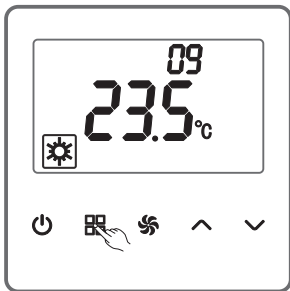

Figure 15
As shown in the Figure 15, on the parameter setting page, press  (MODE) to switch the option number to 09.  (UP) or  (DOWN) is provided to allow a rise or drop on the temperature. If the temperature unit is Celsius, the adjustment range of the temperature is 16°C~35°C with a precision of 0.5°C. If the temperature unit is Fahrenheit, the adjustment range of the temperature is 61°F~95°F with a precision of 1°F.